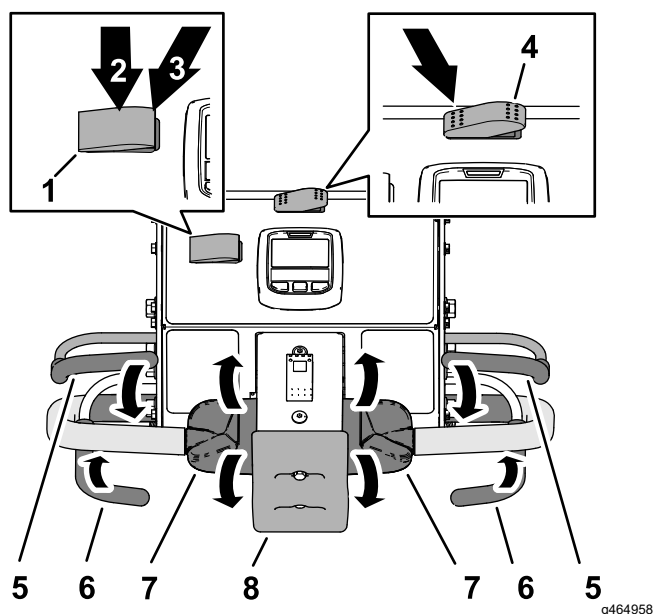

Figure 82
1. Press the transport/aerate switch is in the AERATE position (Figure 82).